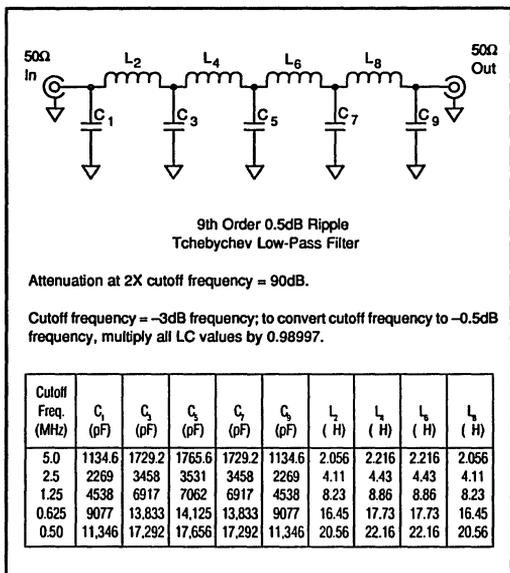

FIGURE 16. Ninth-Order Harmonic Filter.
- Low-pass filtering (or bandpass filtering) of test signal generators is absolutely necessary for THD and IMD tests. An easily built LC low-pass filter (Figure 16) will eliminate harmonics from the test signal generator.